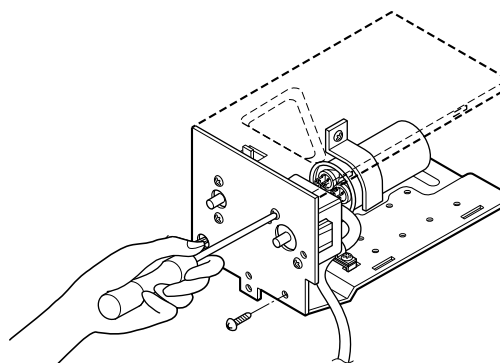

Figure 13
6. Re-install the components by referring to the above removal procedure. (See Figure 13)